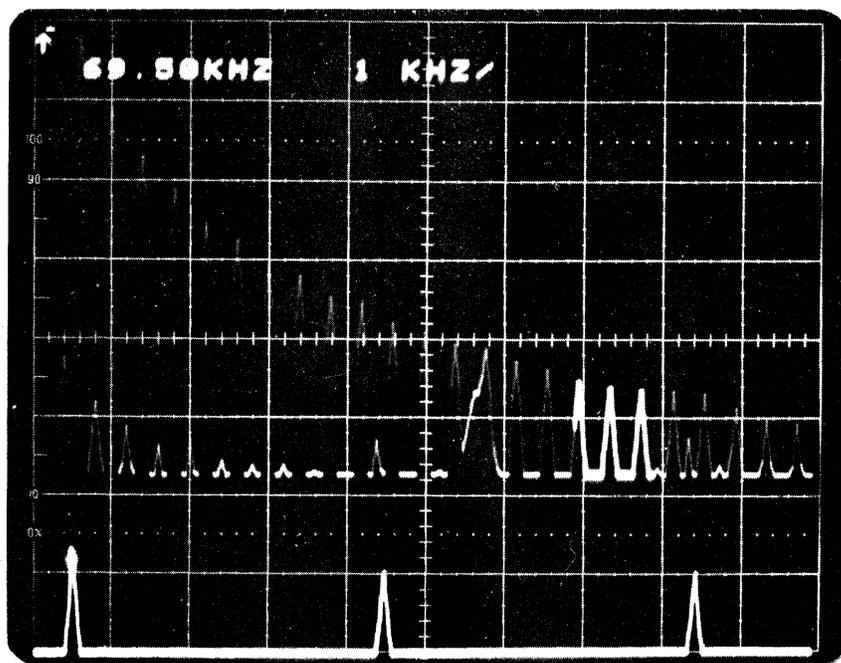

Fig. 4-14b Example of the Use of Cursor-Reads Switch.
- b. Move READS switch to NEITHER (Fig. 4-14b) and note the readout corresponds to the starting frequency and span for the foreground.